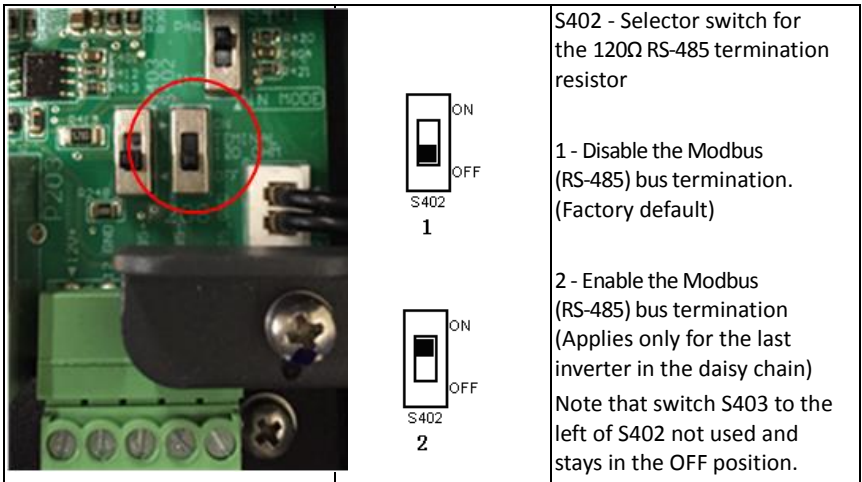

Figure 2.35 - The Modbus (RS485) Termination Switch (S402) Location and Settings on the LCD/Communication Board.
The Modbus termination resistors are built into the PVI 36TL inverter which can be turned on by flipping switch S402 to the ON position as shown in Figure 2.35. The S402 switch should always be left in the OFF position except for the last inverter in the daisy chain.
6. If the inverter is the last/only Modbus device in the Modbus daisy chain, make sure the Modbus termination switch S402 is in the ON position (Up towards the LCD) enabling the Modbus termination resistor. Do **not** turn the switch to the ON position in any of the other inverters. See Figure 2.35 and 2.43.